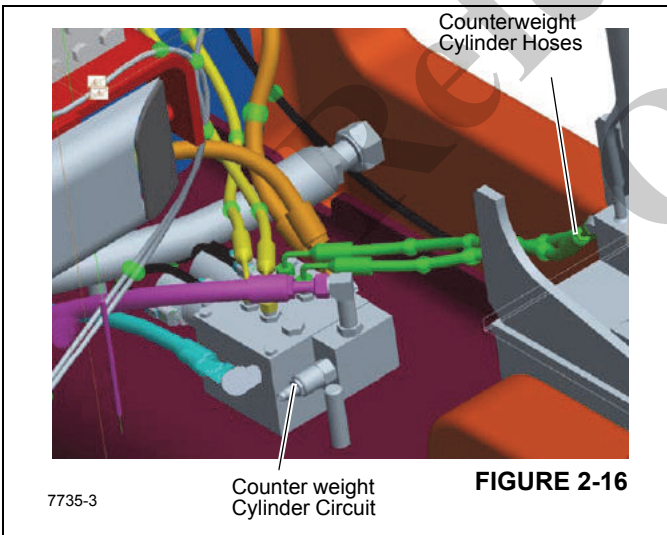

FIGURE 2-16
- 1. The Counterweight Cylinder circuit has a single reducing valve in the counterweight removal manifold with a setting of 121 bar (1750 PSI) as shown in (Figure 2-16).